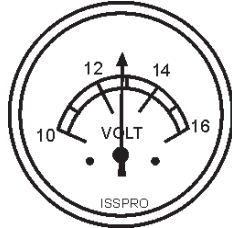

Figure 26. Battery Voltage Gauge
10. The battery voltage gauge (Figure 26) will indicate the voltage of the battery when the generator is operating. Under normal operating conditions this voltage is between 11.2 and 15.2 volts.